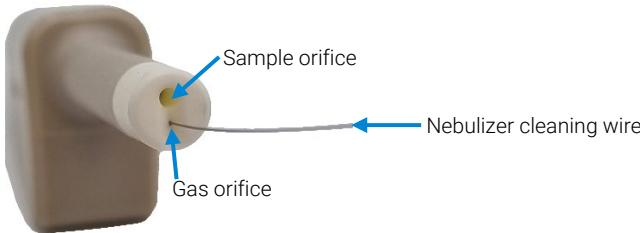

Figure 3 Agilent V-groove, inert high TDS nebulizer orifice cleaning
- Cleaning wire, for gas orifice (see Figure 3)